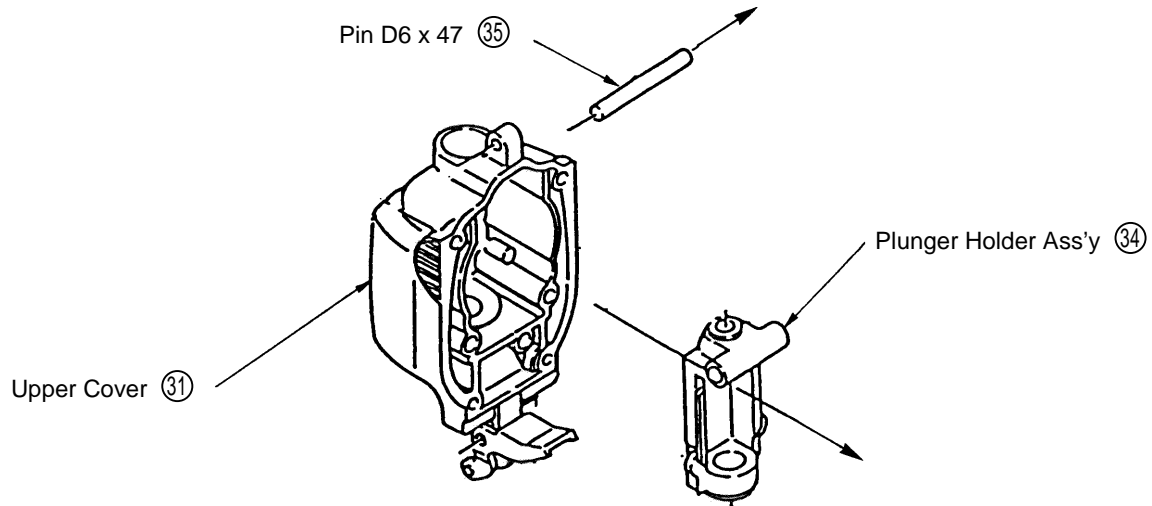

Fig. 12
- (4) Disassembly of the Plunger Holder Ass'y (34) from the Upper Cover (31):
Extract the D6 x 47 Pin (35) from the Upper Cover (31). Then, while lifting the Plunger Holder Ass'y (34), pull it toward the Gear Cover (50) to remove it from the Upper Cover (31). (See Fig. 12)